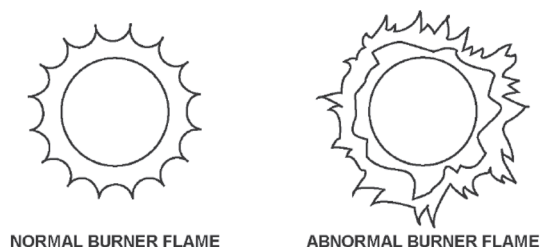

Figure 51. Normal and Abnormal Burner Flames
You should also check for sooting. Soot is not normal and will impair proper combustion. A visual inspection of the main burner and HSI igniter assembly should also be done at least once a year. See **Figure 51**.
- Cause no excessive lifting of flame from burner ports. See **Figure 51**.